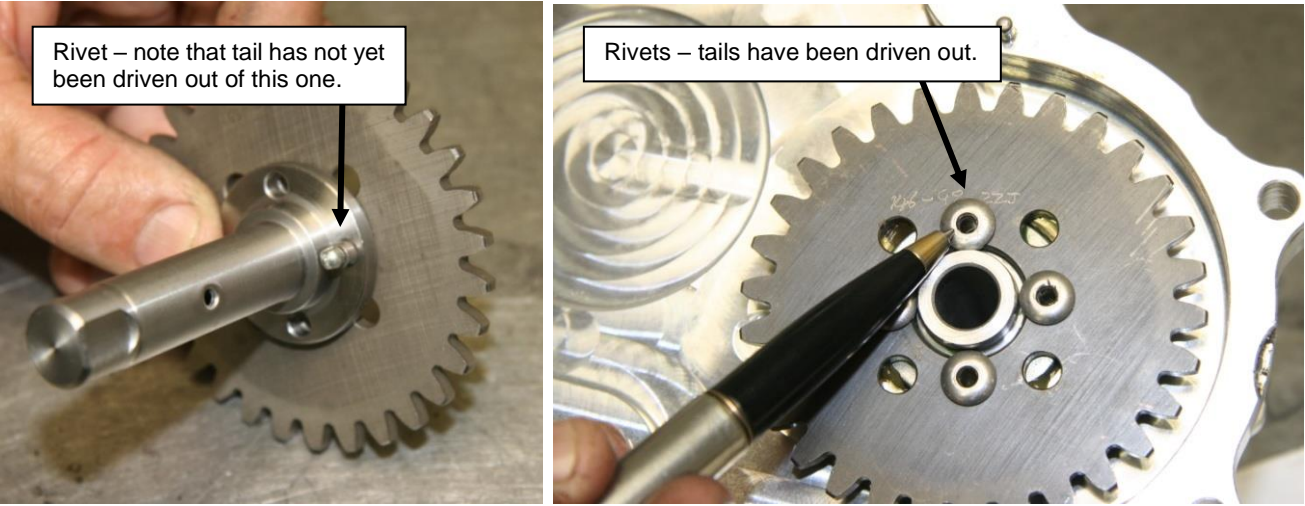

Figure 157 – Assembling Distributor Gear to shaft
- If the distributor shaft has been replaced it will be necessary to rivet the drive gear to the new shaft as shown in Figure 157. 3/16" stainless steel (Monel) blind rivets must be used. Ensure that the heads of the rivet do not get caught on the edge of the shaft and that the tails are not so long that they project past the shoulder of the shaft. Also ensure that the remainder of the rivet tails are driven out of the rivet – otherwise they can work loose in service and damage the engine.